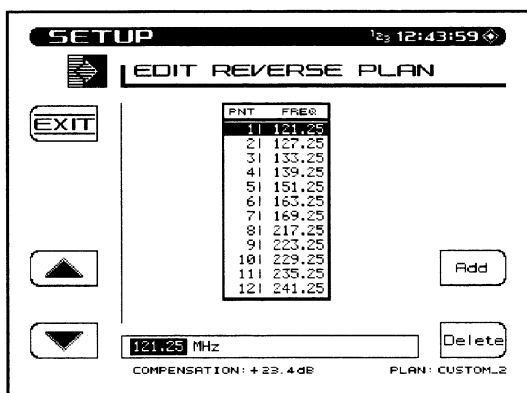

Fig. 14-18 The EDIT REVERSE PLAN Screen
1. Press the **Edit** soft key to display the EDIT REVERSE PLAN screen shown in Fig. 14-18.